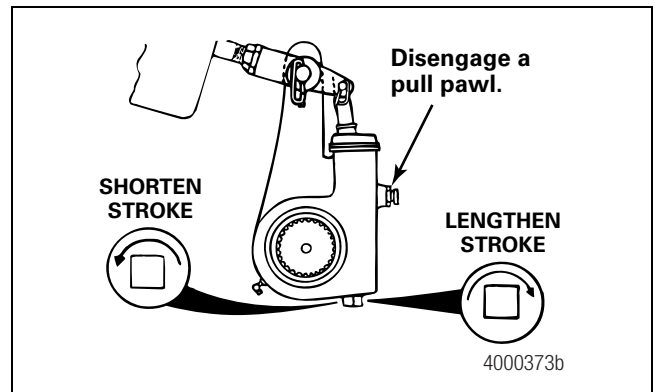

Figure 7.24
- **If the free stroke measurement is not within specification:** Turn the adjusting nut 1/8 turn in the direction shown in Figure 7.24 and check the free stroke again. Continue to measure and adjust the stroke until the measurement is within specification.